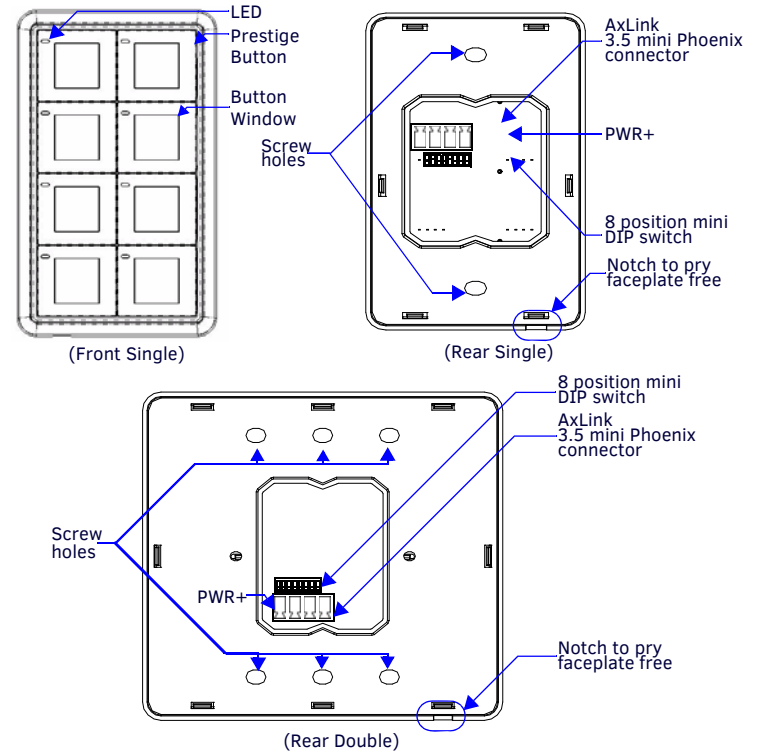

FIG. 2 MIO MODERO FRONT AND REAR COMPONENTS
4. Connect the AxLink power supply. The connector passes through the center of the mounting frame and connects to the board. The connection is illustrated in FIG. 2.
5. Connect the AxLink power supply. The connector passes through the center of the mounting frame and connects to the board. The connection is illustrated in FIG. 2.